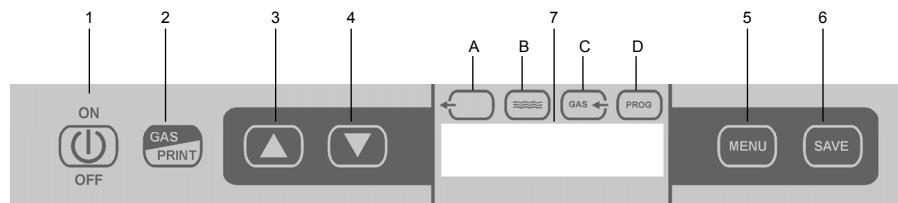
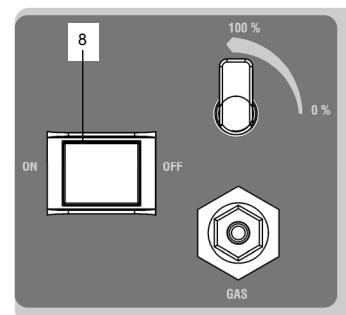

Fig. 4.1.1
Fig. 4.1.2
4. Switch the board by pressing the key ref. 1 fig. 4.1.1
All the following functions and adjustments must be performed with the machine powered (main switch ref. 8 fig. 4.1.2 in position ON) and the board switched to OFF (the display will intermittently read OFF and the DATE and TIME). If the board is on, switch it off before you perform the following operations, by pressing the key ref. 1 fig. 4.1.1
Hold key 1 down (fig. 4.1.1) for at least 5 seconds.
"Languages" will appear on the display. By pressing keys 3 and 4 (fig. 4.1.1) the desired language can be selected and then confirmed by pressing key 1 (fig. 4.1.1).
Hold key 1 (fig. 4.1.1) down for at least 5 seconds. The wording "language" appears on the display. Press key 5 (fig. 4.1.1) and select "Setting PROG. A". Use keys 3 and 4 (fig. 4.1.1) to select the final pressure you want to reach in the bell.
Confirm by pressing 1 (fig. 4.1.1).
Press the button 2 (fig. 4.1.1.) for 3 seconds to activate the thermal printer. Finished every cycle of work the machine will make the label printing.
By pressing the button SAVE (6 fig. 4.1.1) you can reprint the last label. To deactivate the printer it will be sufficient press the button 2 for 3 seconds.
"Languages" will appear on the display. Press key 5 (fig. 4.1.1) and select "date". By pressing keys 3 and 4 (fig. 4.1.1) it will be possible to set the date. Confirm by pressing key 1 (fig. 4.1.1).
"Languages" will appear on the display. Press key 5 (fig. 4.1.1) and select "time". By pressing keys 3 and 4 (fig. 4.1.1) it will be possible to set the data. Confirm by pressing key 1 (fig. 4.1.1).